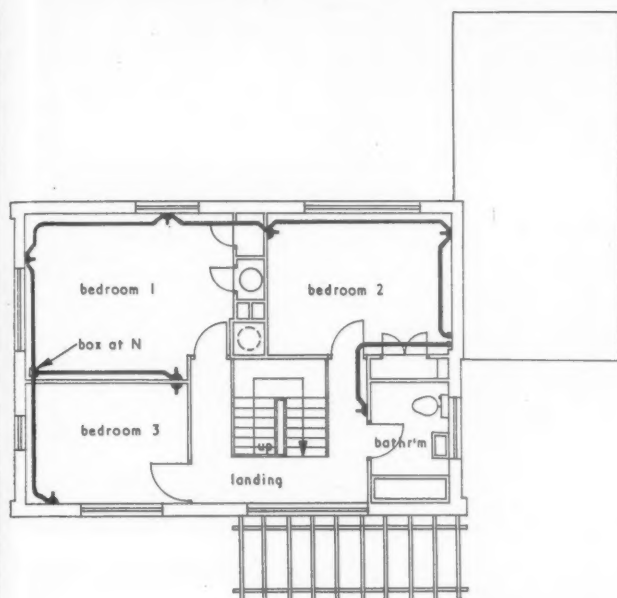

Fig. 16, routing of conduit to the first floor socket outlets.
**First floor ring sockets:** The layout of conduit for these sockets is shown in Fig. 16. The conduit to the tubular heater and socket on the landing should be taken back independently to the Consumer's Unit, to avoid the use of a floor trap, but here again there is no particular advantage in using spurs. The cable should be taken out to the landing point, back to the Consumer's Unit, and then out again and round the rest of the ring.
A box at the point N in Fig. 16 will probably be the best thing here, although if there is some special reason for wishing to avoid a trap at this position two conduits can be taken out to the points on the dividing wall.